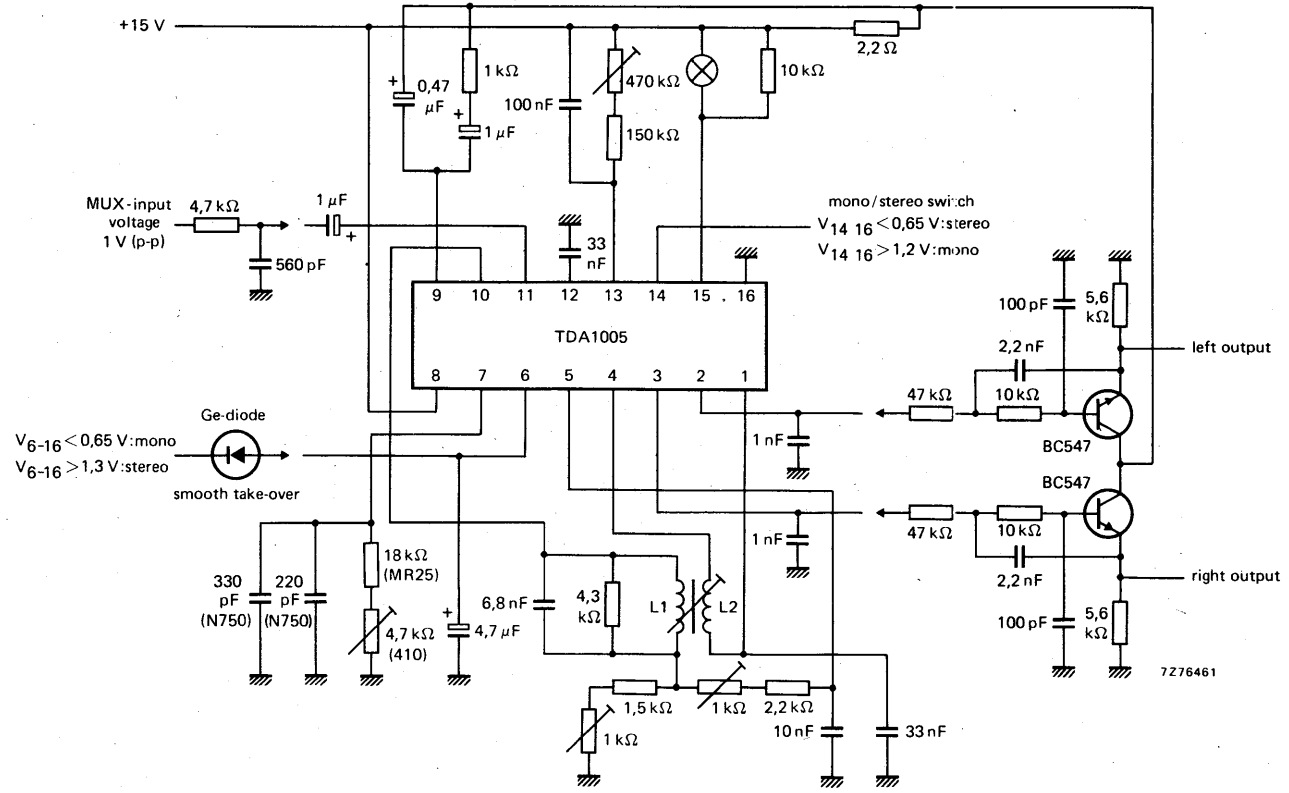
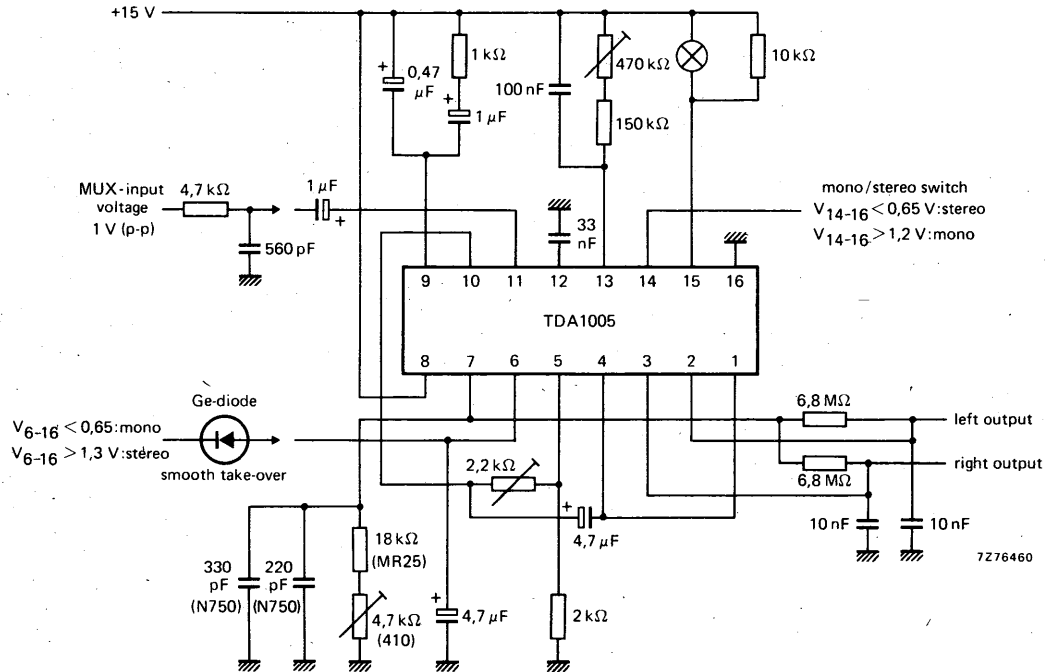
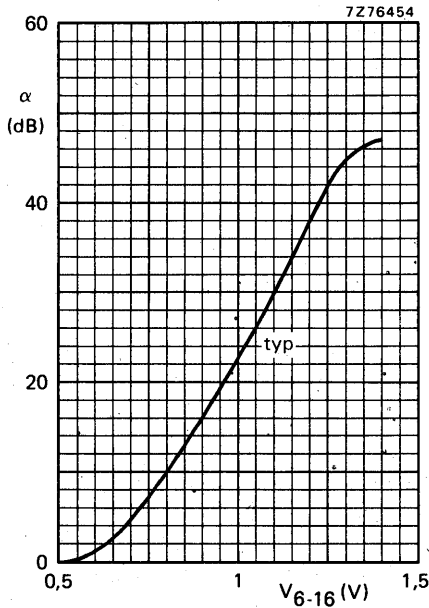

Fig.1 Frequency-division multiplex stereo decoder.
Fig. 2 Time-division multiplex stereo decoder.
Fig. 10 Channel separation as a function of V_{6-16} at 1 kHz (smooth take-over).
at $T_{amb} = 25^{\circ}\text{C}$; $V_{8-16} = 15\text{ V}$ (unless otherwise specified) see circuit diagrams on pages 7 (Fig. 1 but with modified output circuitry, without filter) and 8 (Fig. 2)
- For additional circuitry on pin 6 see Figs. 1 and 2; for graph see Fig. 10.
Note : all measurements have been carried out without the output filter, that is with output circuitry on pins 2 and 3, as given in Fig.2.